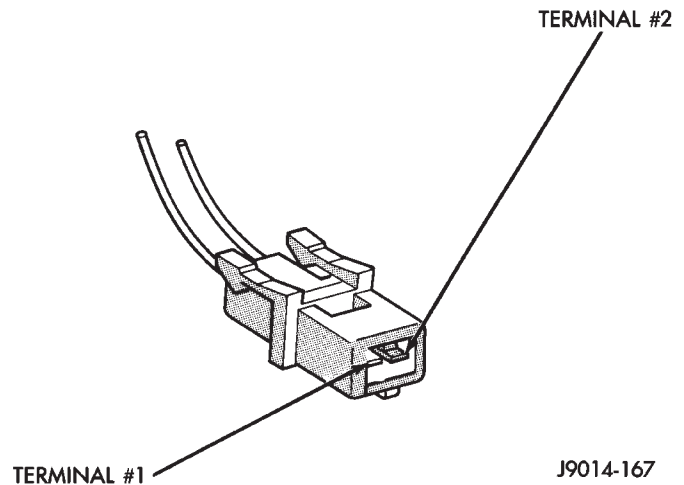

Fig. 8 Injector Harness Connector
- (c) Connect a jumper wire to ground terminal Number 1 of the injector harness (Fig. 8) to engine ground.
- (d) Connect a jumper wire to the positive terminal Number 2 of the injector harness (Fig. 8) and touch the battery positive post for no longer than 5 seconds. This releases system pressure.